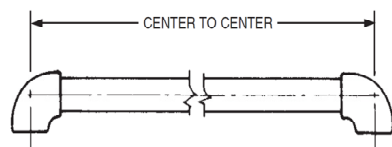

FIGURE 85
5. Pipe lengths are measured from center of fitting to center of fitting. See Figure 85.